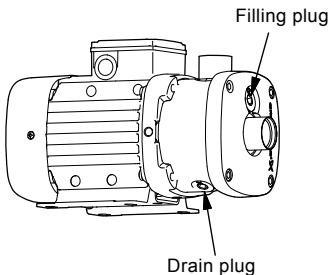

Fig. 7 Plugs in the pump sleeve
3. Remove the filling plug. See fig. 7.
Remove the filling and drain plugs. See fig. 7.